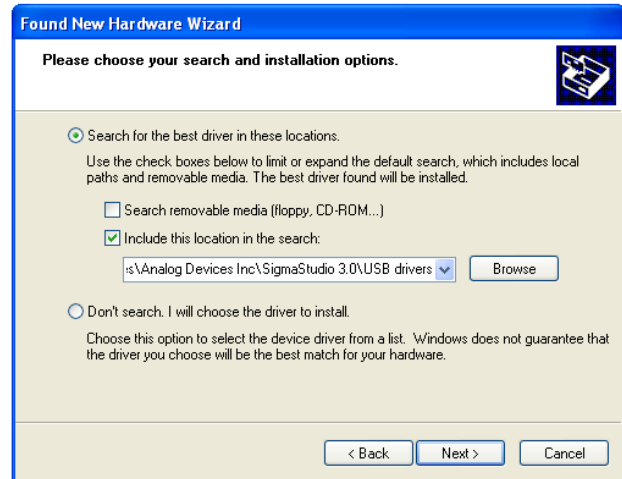

Figure 8. Windows Found New Hardware Wizard—Search and Installation Options
3. Click **Search for the best driver in these locations**, then select **Include this location in the search**. Click **Browse** to find the SigmaStudio 3.0\USB drivers directory (see Figure 8).